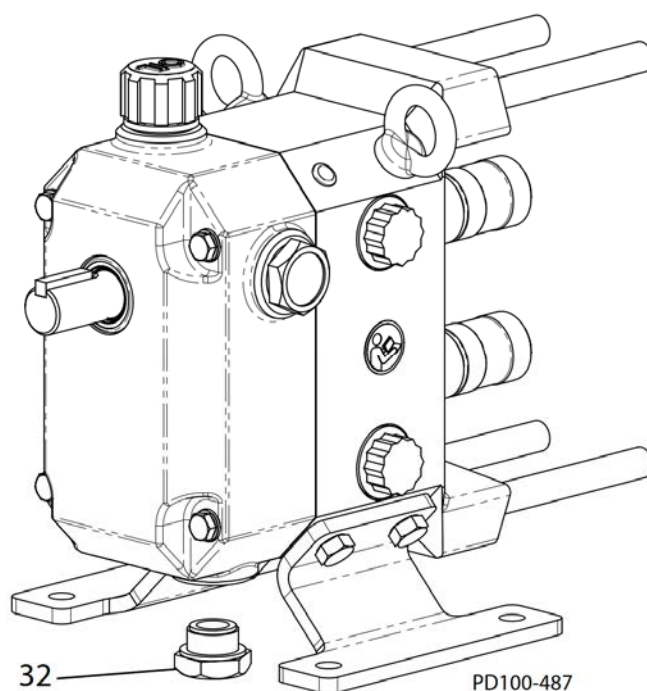

Fig. 37: Remove Oil Drain Plug
1. Remove the bottom drain plug (Figure 37, item 32) and drain the oil into an appropriate container. Dispose of the used oil in accordance with local requirements.